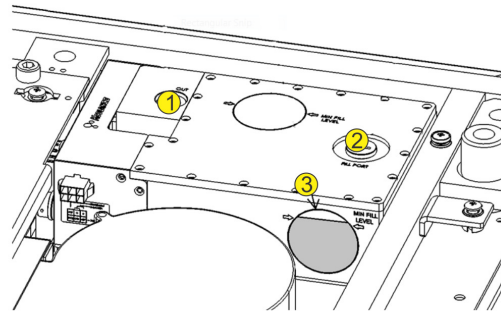

FIGURE 5-11
4. Locate the Liquid Cooling Module and inspect the liquid level window. **NOTE:** *The arrow is next to the window which indicates the “MIN FILL LEVEL”.* Refer to Figure 5-11.
1. Using a flat head screwdriver, remove the fill port cap and the air vent cap. See Figure 5-11.